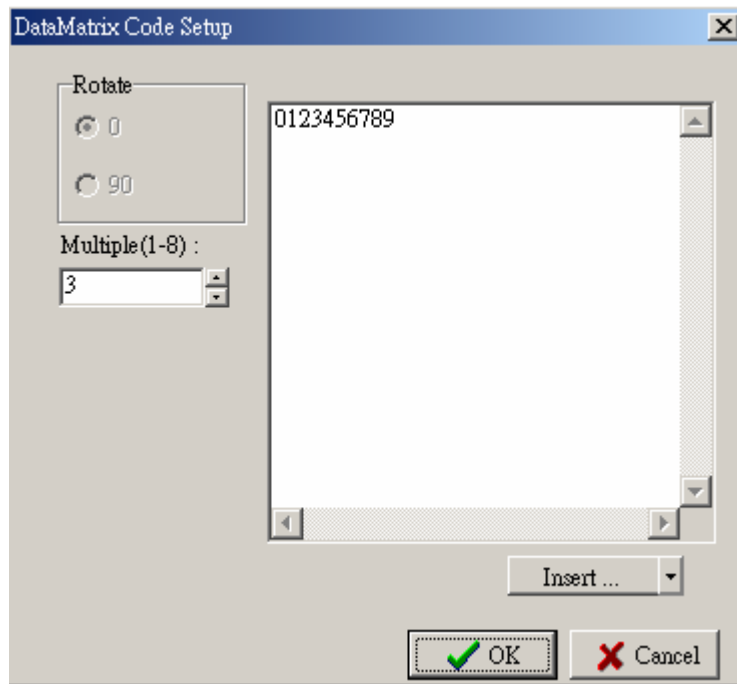

Fig.10.1
9. Click  (refer to the Fig.10.1)